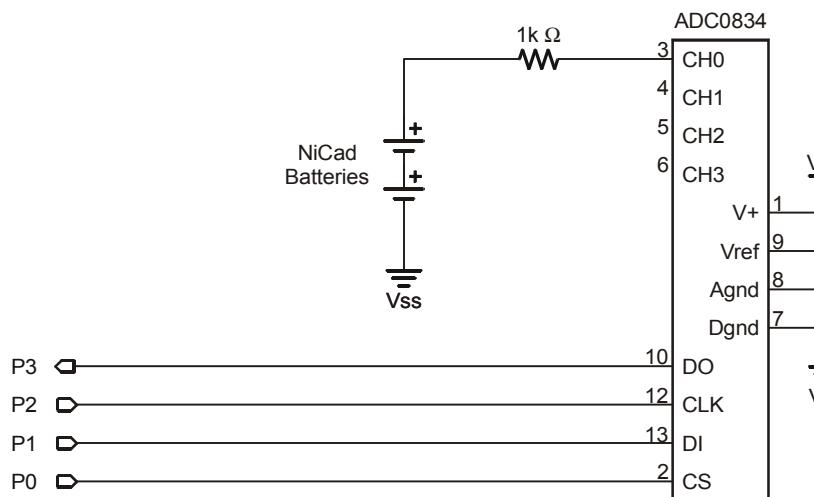
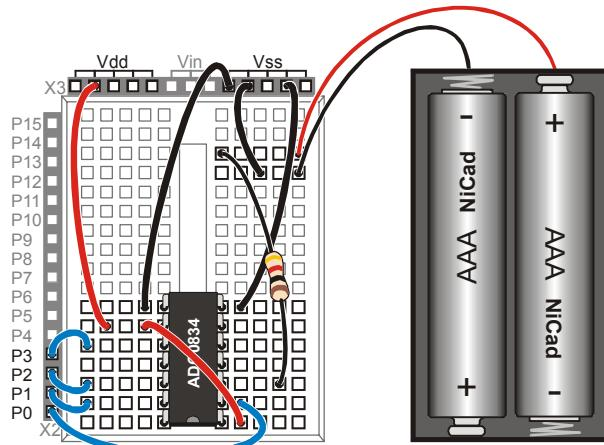

Figure 2-1
Figure 2-2
- (1) AAA Battery Holder (red wire is +, black wire is -)
- (2) 1.2-volt AAA NiCad rechargeable batteries (included)
- ✓ Add the $1\text{ k}\Omega$ resistor and battery holder to the circuit shown in Figure 2-1 and Figure 2-2.